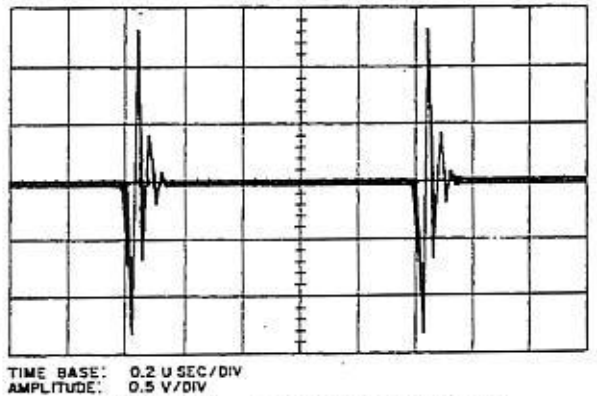

Figure 6.10 – Terminal E84 Waveform
d. Reconnect oscilloscope to terminal E84. The observed 1 MHz spectrum waveform should resemble the one shown in figure 6.10.